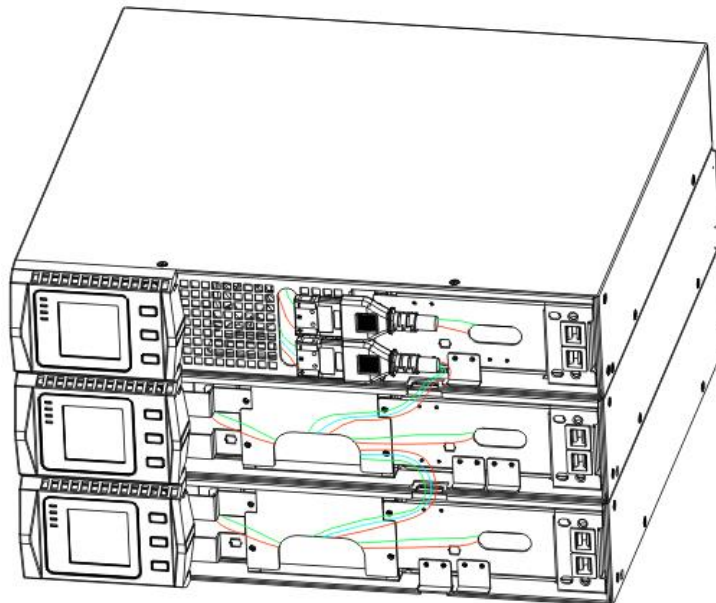

FIG.12 Typical EBP Installation
5. Plug the EBP cable(s) into the battery connector(s) as shown in FIG. 12. Up to four EBPs may be connected to the UPS. Connect black to black. Press the connector tightly together to ensure a proper connection.